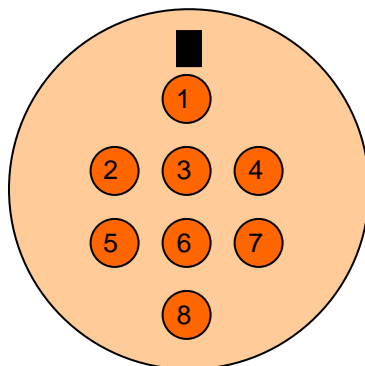

Figure 2 – Pin Numbering
4. Using a 5/8" wrench, loosen the retaining nut on the input bulkhead (about 1 full turn should be enough) (Fig 2).
5. Slide the foam towards left side of the analyzer (from the back of the analyzer) to remove it (Fig 2).